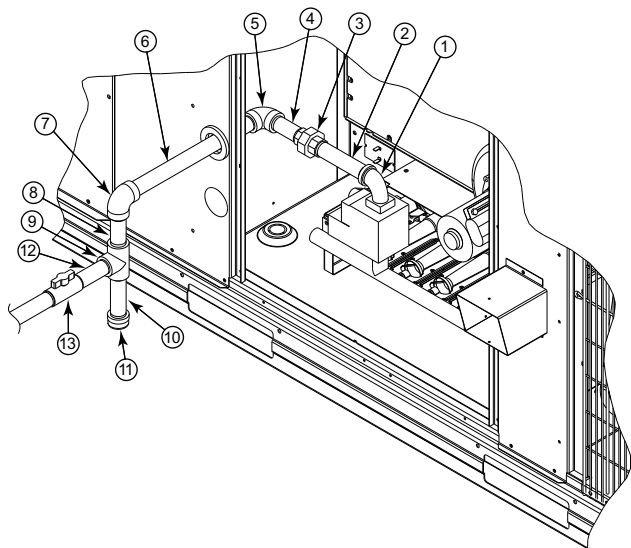

Fig. 41 — Gas Supply Line Piping
For typical $\frac{3}{4}$ -in. NPT field supplied fittings required for NON thru-base gas supply starting from the unit gas valve, omit items 14 and 15 from Table 3 and pipe gas supply into TEE. See Fig. 41.
Some municipal codes require that the manual shutoff valve be located upstream of the sediment trap. See Fig. 41 for typical piping arrangements for gas piping that has been routed through the side-wall of the base pan.